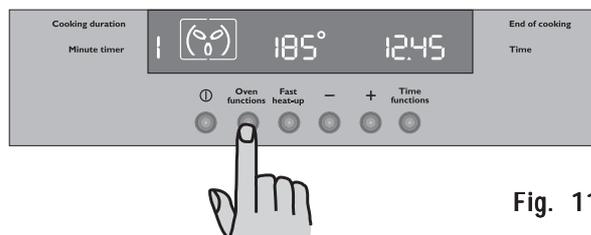

Fig. 11
- 1) Place food in the oven, switch on the oven, select an Oven function and adjust the cooking temperature, if required (Fig. 11).